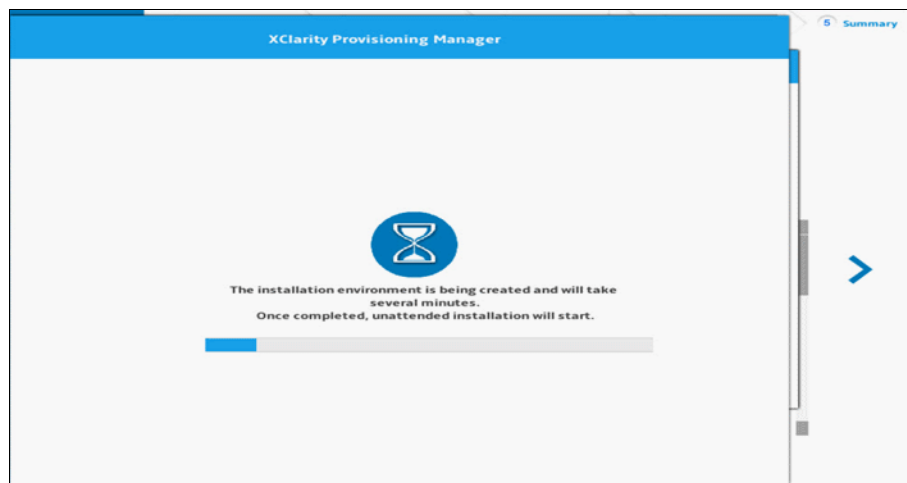

Figure 6-36 Windows installation loading screen
11. The OS installation will load as shown in Figure 6-36. This may take some time to load.